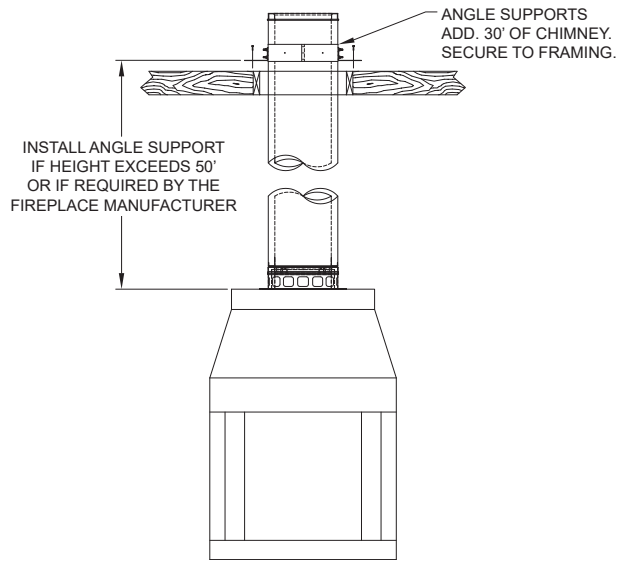
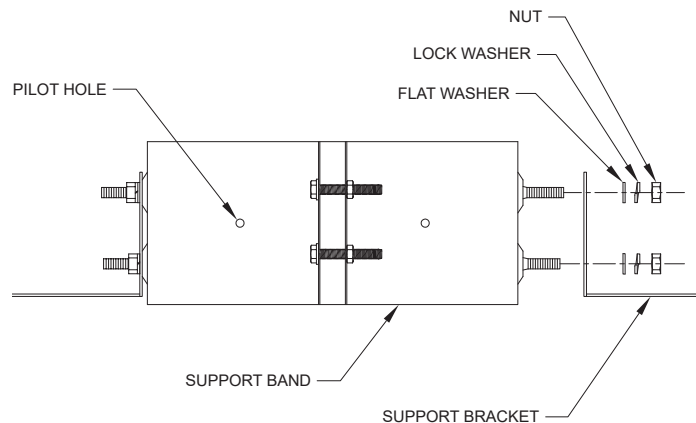

FIG. 5
FIG. 6
Angle Support and Support Band: Install an Angle Support if total chimney height is greater than 50 feet, or if the fireplace manufacturer requires it. If additional support is needed, install one or more Angle Supports which will support 30 feet of chimney. See **FIG. 5**. Slide the Angle Support around the chimney and align over framed opening. Secure to casing with (4) sheet metal screws and assemble brackets per **FIG. 6**.